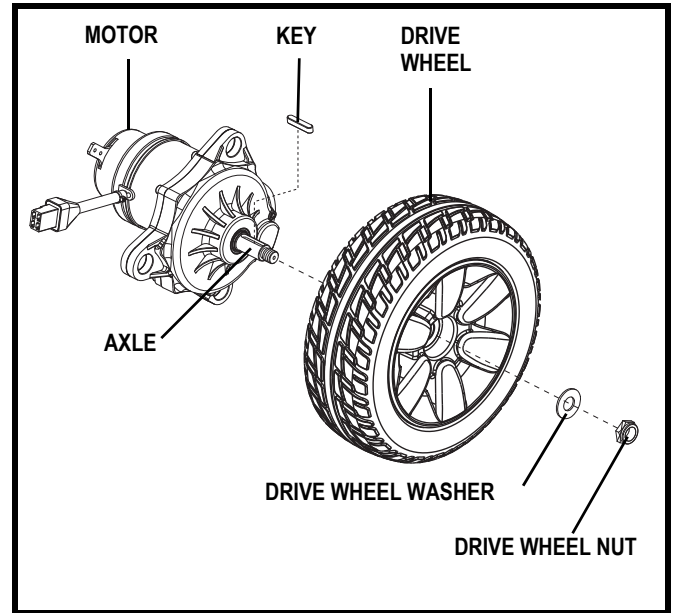

Figure 16. Jazzy Sport 2 Drive Wheel Removal
4. Remove the drive wheel nut and washer from the axle. See figure 16.
8. Reinstall the drive wheel nut and washer onto the axle and tighten. See figure 16.